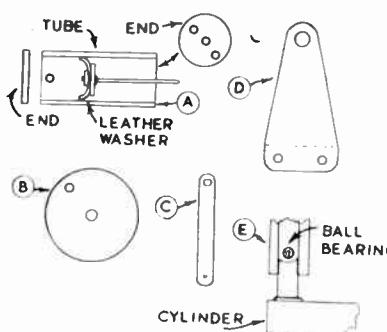

Fig. 4—Detail of the parts
The motor drives the crank through a belt reduction drive, though gearing could be used if suitable parts are to hand. The axle is pivoted in two stout brackets, which may be bent up as shown in Fig. 4 (D). Washers or bushes soldered on prevent sideways movement of the axle.
A section through the cylinder and piston is shown at (A) in Fig. 4. As the piston is withdrawn, air passes round the leather washer. When the piston is being forced inwards, however, the washer is expanded by the air against the walls of the cylinder, thus assuring that the air passes out through the hole at the end of the cylinder. The leather washer should not be a tight fit, and it
done as shown in Fig. 4 at (E). A piece of small-diameter copper or brass tubing is soldered upright in the end of the cylinder. Its upper end should be filed perfectly flat, then indented slightly with a countersink drill so as to form a seat upon which a ball bearing can rest to form an almost airtight valve. A tube of slightly larger diameter fits over the small tube, as shown, and the rubber tubing is finally pushed over the top end of this larger tube.